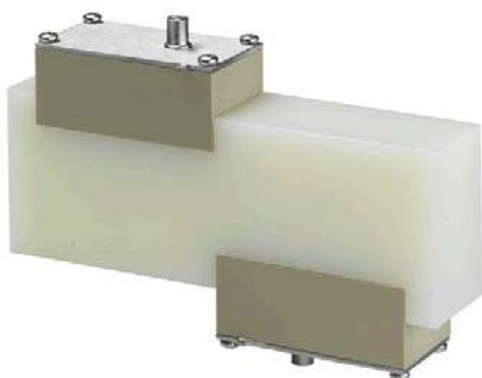

Figure 17 Sensors on the test block
9. Apply acoustic couplant to the sensors and attach them to the test block with the connectors positioned towards the centre of the test block as shown in Figure 17, and temporarily secure them in place using elastic bands or tape.
12. Press the SYSTEM key (2) to display the *System Settings* screen.